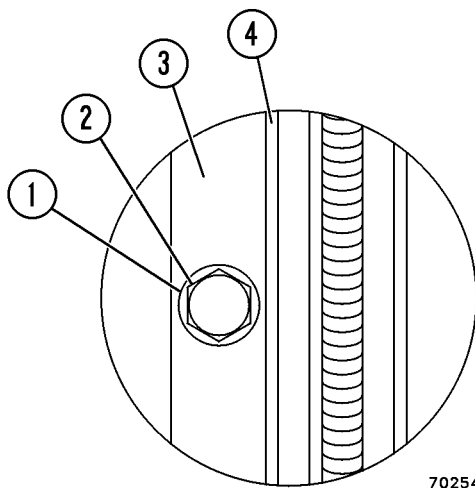

FIGURE 2-3. DOOR JAMB BOLT ADJUSTMENT
1. Mark the washer location (1, Figure 2-3) portion of the door jamb bolt with a marker, pen, or pencil by circumscribing the outside edge of the washer onto the jamb.
2. Loosen the door jamb bolt (2) and move straight inwards 1/16" and retighten.
3. Hold a piece of paper such as a dollar bill between where the door seal (4) will hit the skin of the cab and firmly close the door ensuring that it latches on the second catch. (The door latch mechanism has a double catch mechanism.)